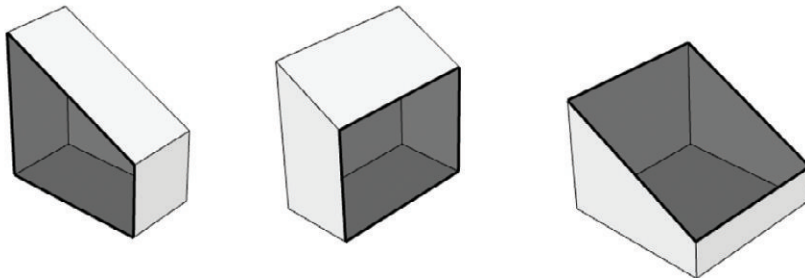

Figure 4.63b An active section plane hides all entities behind it.
4. Continue holding the Shift key until you click again to place the section cut. You will now see the section plane hiding all geometry in front of it (Figure 4.63b).